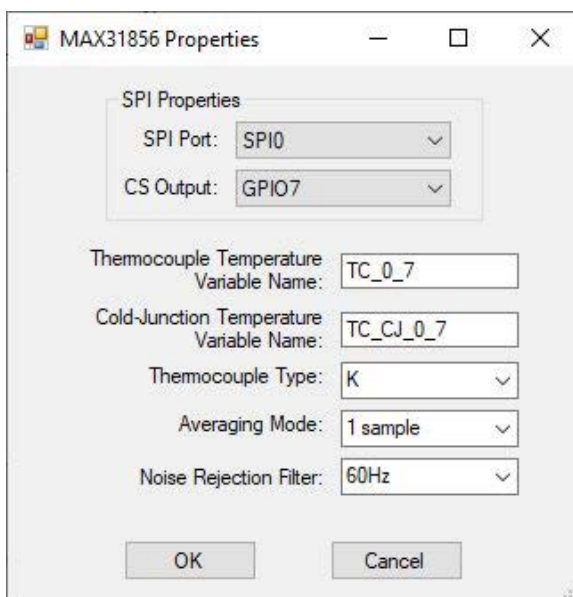

Figure 15-30
Select the SPI port from the drop down menu and select the general purpose output pin (GPO) that will serve as this device's chip select (CS). See Figure 15-30. Any chip select pins reserved for structured text will not be visible in the drop-down menu.